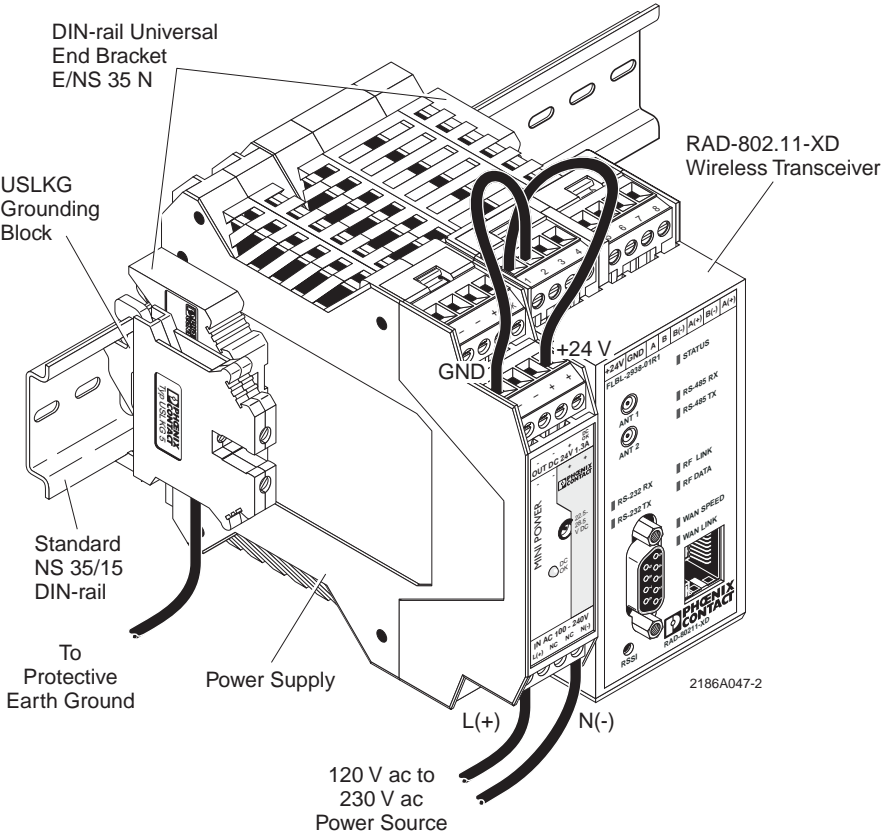

Figure 3-1. RAD-80211-XD Installation Using a DIN-rail Power Supply, End Clamps and Gropund Terminal Block
Figure 3-1 shows a typical RAD-80211-XD radio installation using a Phoenix Contact power supply, end clamps and a DIN-rail grounding block.
When mounting the radio onto a standard 35 mm (1.378 in.) DIN rail, end clamps should be mounted on both sides of the module(s) to stop the modules from slipping on the DIN rail. Refer to Figure 3-1.
4. Connect the DIN rail to protective earth ground using a grounding terminal block. Refer to Figure 3-1.